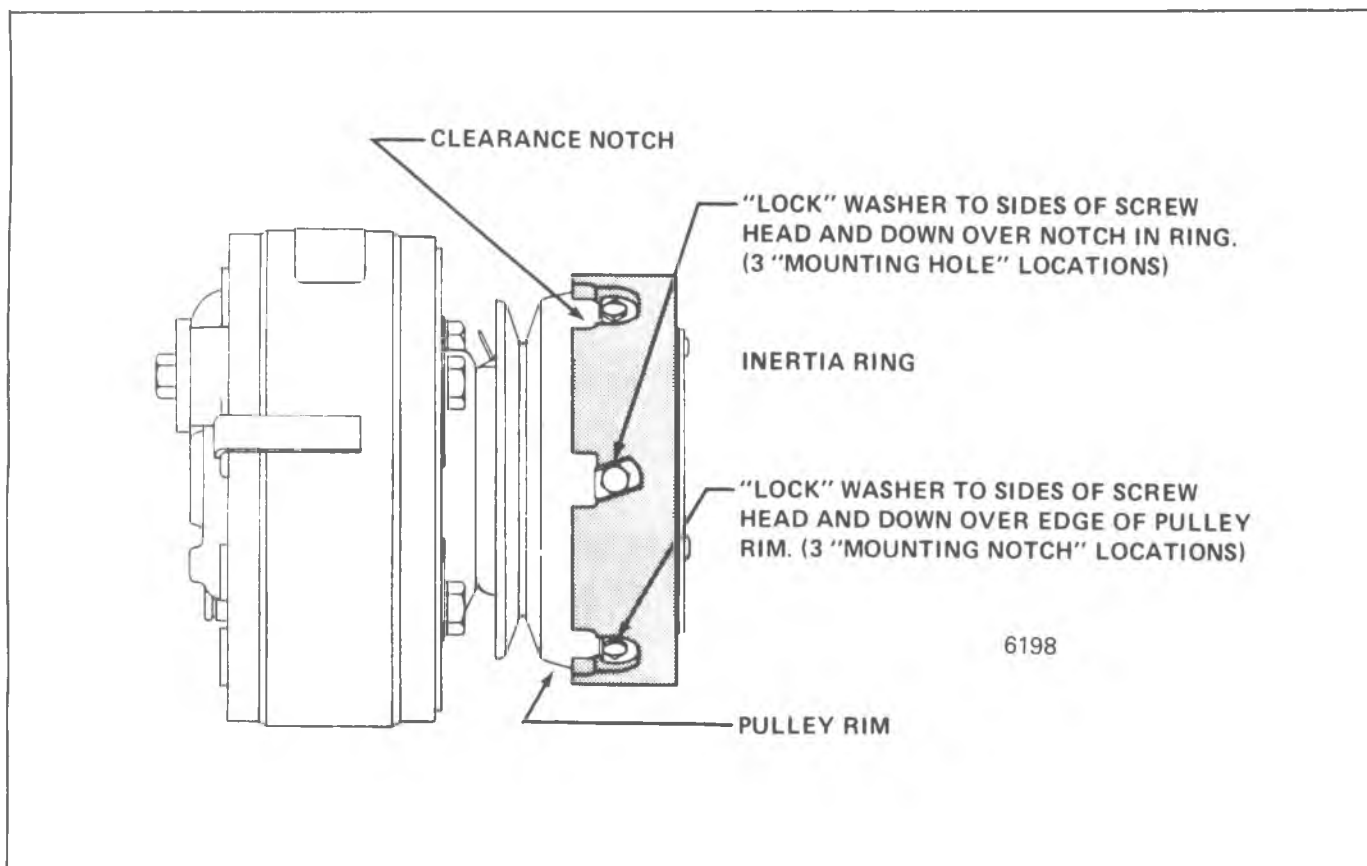

Figure 1D-92 R-4 Pulley Rim and Inertia Ring Mounting Detail
11. Assemble the Inertia Ring onto the Pulley Rim being careful to align the Inertia Ring mounting holes with the mounting holes in the Pulley Rim. If the Inertia Ring cannot be moved by hand and must be rotated for centering the mounting holes, use a drift punch or blunt tool and a hammer to carefully tap at one of the large clearance notches in the inertia ring to rotate the ring into position, Figure 1D-92.